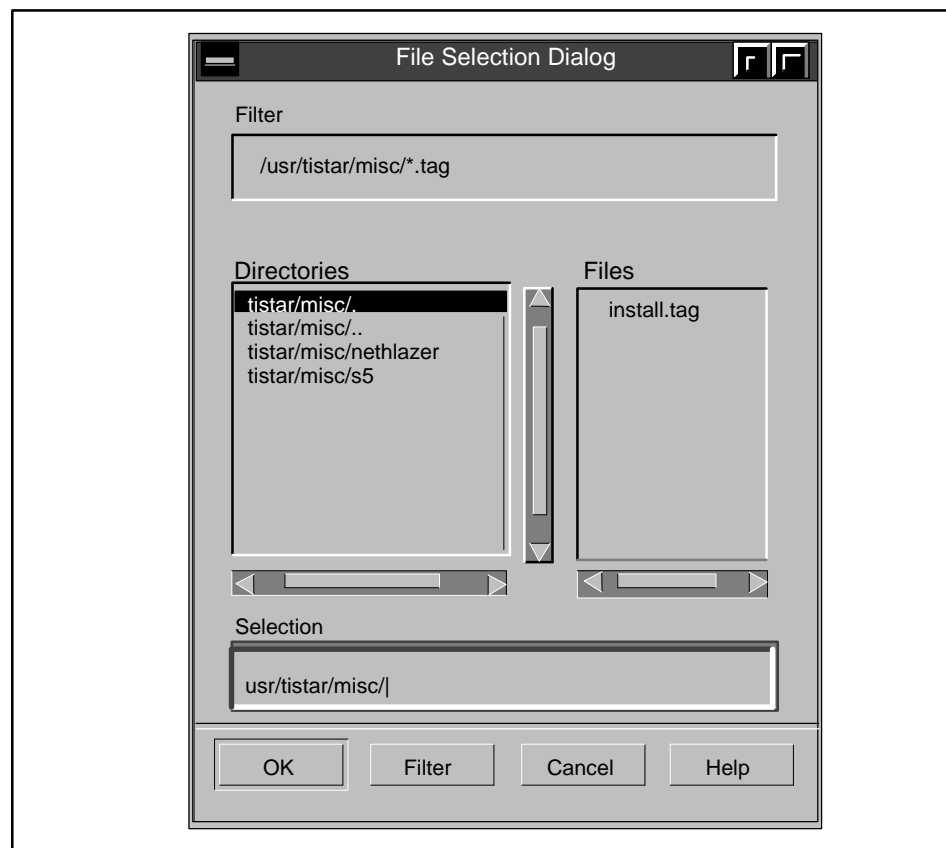

Figure 2-27 Selecting Directory Path for Tag Data File
3. Click **Browse** to display the file selection list (Figure 2-27).